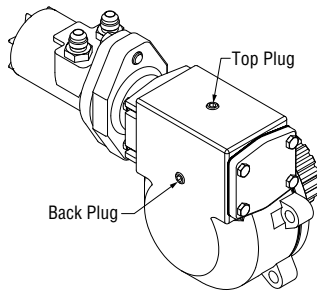

Figure 5-4, Gearbox Grease Plugs
2. Remove the top and back plugs from the gearbox and completely fill with Movilux EPO or equivalent grease. (Figure 5-4)